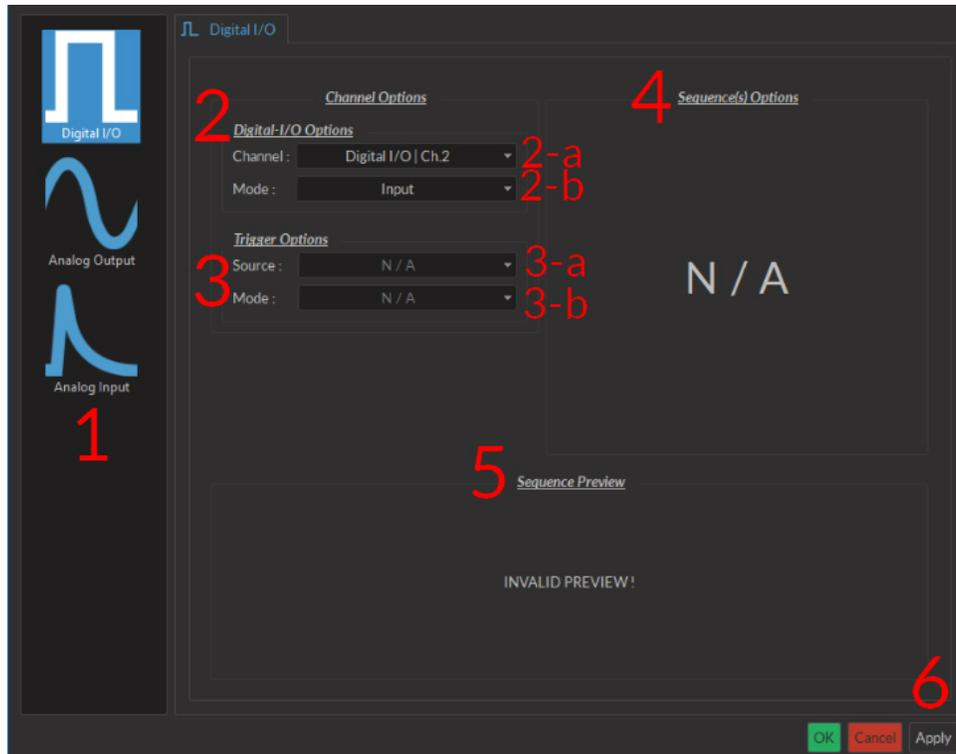

Figure 3.2: Channel(s) configuration window, Digital I/O input
1. The **Channel Types** (Fig. 3.2) are selected in the box on the left side of the window. Selecting the **Digital I/O**, **Analog-Out** or **Analog Input** icons will display the parameters to each respective **Channel type** on the right side of the window.
2. The **Channel Options** (Fig. 3.2) include the **Channel** drop-down list and the channel **Mode** list.
3. The **Trigger Options** (Fig. 3.2) define the trigger methods. These options include the trigger **Source** and **Mode**.
4. The **Sequence Options** (Fig. 3.2) define the parameters of each pulse sequence for output channels. These parameters are defined with each channel type. Should a parameter chosen be impossible to apply to a sequence (For example, a **Time ON** greater than $1/\text{Frequency}$), the color of the option boxes will turn **RED**.
5. The **Sequence Preview** (Fig. 3.2) section allows visualization of the output sequence that will play by selecting the channel in the graph.
6. The **Apply** button (Fig. 3.2) will generate the defined channel OR update an already configured channel with any changes.
- The **Input** mode (Fig 3.2) receives a signal that is translated to 0 (**Off**) or 1 (**On**). The channel can then be used as a trigger source for all the other channels of the console. No **Sequence Options** or **Sequence Previews** are available for this mode.